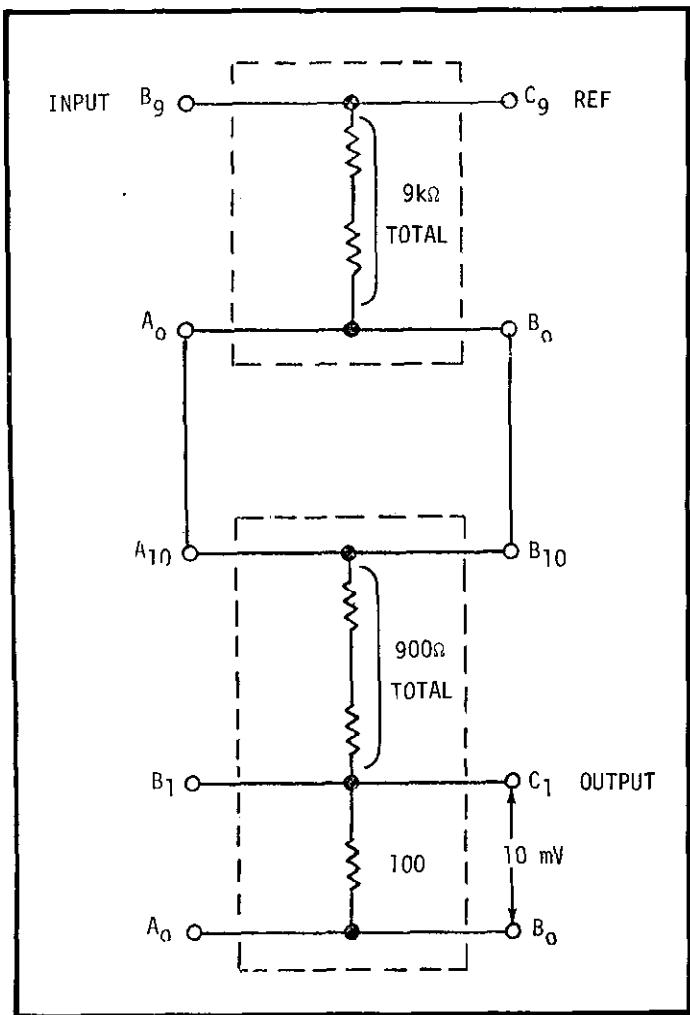

FIGURE 42. Voltage Divider Connections, 10mV Output.
a). Connect Voltage Divider for 1:100 division ratio as shown in Figure 42.